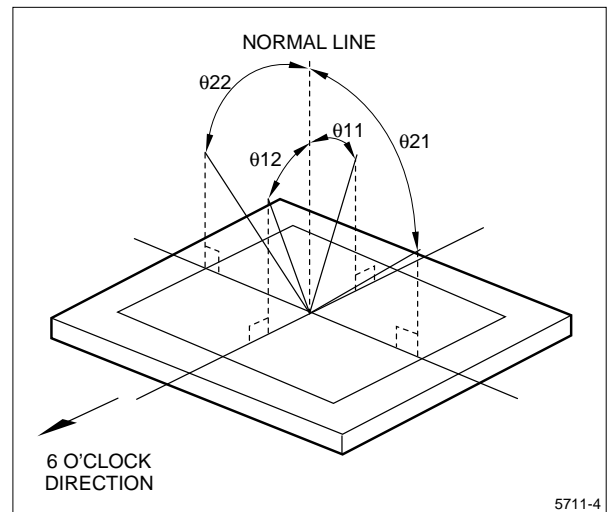

Figure 5. Definition of Viewing Angle
2. Figure 5 shows the definitions of the viewing angle range.